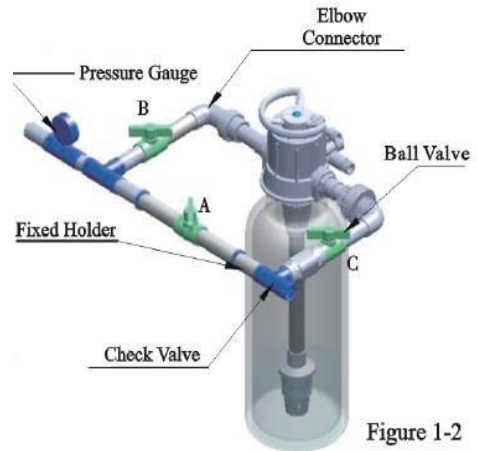

Figure 1-2
② Pipeline connection
- a. As the Figure 1-2 shows, a pressure gauge should be installed on the inlet pipe.